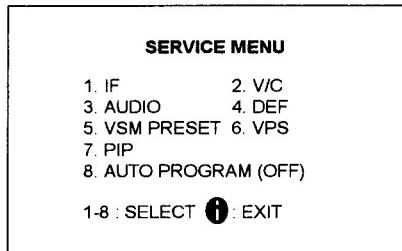
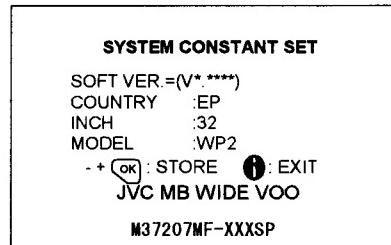

Fig.1
Fig.2
(1) Power off	Switch the power off and unplug the power code from the outlet.
(2) Replace ICs.	Be sure to use memory ICs written with the initial data values.
(3) Power on	Plug the power code into the outlet and switch the power on.
(4) Check and set SYSTEM CONSTANT SET:	<ol style="list-style-type: none"> Press the INFORMATION key and the MUTE key of the REMOTE CONTROL UNIT simultaneously. The SERVICE MENU screen of Fig. 1 will be displayed. While the SERVICE MENU is displayed, press the INFORMATION key and MUTE key simultaneously, and the SYSTEM CONSTANT SET screen of Fig. 2 will be displayed. Check the setting values of the SYSTEM CONSTANT SET of Table 1. If the value is different, select the setting item with the FUNCTION UP/DOWN key, and set the correct value with the FUNCTION -/+ key. Press the MENU key to memorize the setting value. Press the INFORMATION key twice, and return to the normal screen.
(5) Setting of receive channels	<p>Set the receive channel. For setting, refer to the OPERATING INSTRUCTIONS.</p>
(6) User settings	<p>Check the user setting values of Table 2, and if setting value is different, set the correct value. For setting, refer to the OPERATING INSTRUCTIONS.</p>
(7) Setting of SERVICE MENU	<p>Verify the setting items of the SERVICE MENU of Table 3, and reset where necessary. For setting, refer to the SERVICE ADJUSTMENTS.</p>